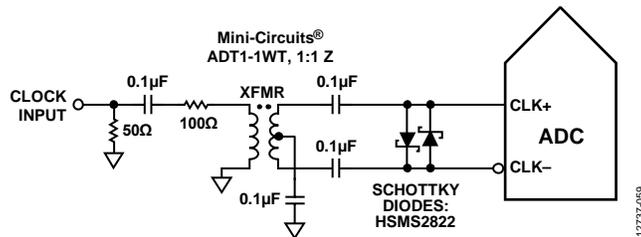
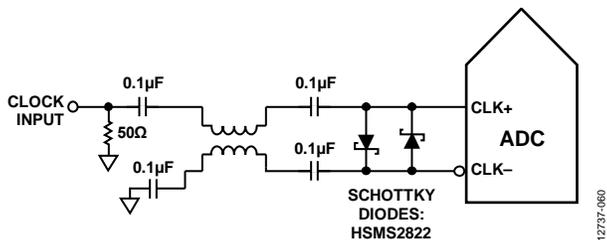

Figure 55. Transformer Coupled Differential Clock (Up to 200 MHz)
Figure 56. Balun-Coupled Differential Clock (Up to 1 GHz)
Figure 55 and Figure 56 show two preferred methods for clocking the **AD9655** at clock rates up to 1 GHz prior to the internal clock divider. A low jitter clock source is converted from a single-ended signal to a differential signal using either a radio frequency (RF) transformer or an RF balun.